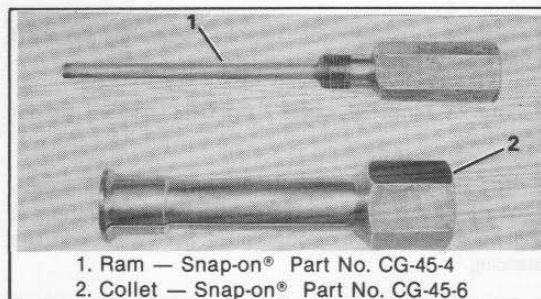

Figure 2-7A. Snap-on Bearing Puller
Clean all parts in solvent and inspect for damage or wear. Replace parts as necessary. If bearing cones or cups need replacing, replace as a set. Use a standard bearing puller, such as the Snap-on® puller shown in Figure 2-7A, to remove the bearing cups (6) from hub (8). Inspect brake discs for warping, scoring or worn running surfaces. Replace as necessary. On spoked wheels, check spoke flanges for bent or damaged condition.
Clean all parts in solvent and inspect for damage or wear. Replace parts as necessary. If bearing cones or cups need replacing, replace as a set. Use a standard bearing puller (see Figure 2-7A) to remove bearing cups. Inspect brake discs for warping, scoring or worn running surfaces. Replace as necessary. On spoked wheels, check spoke flanges for bent or damaged condition.